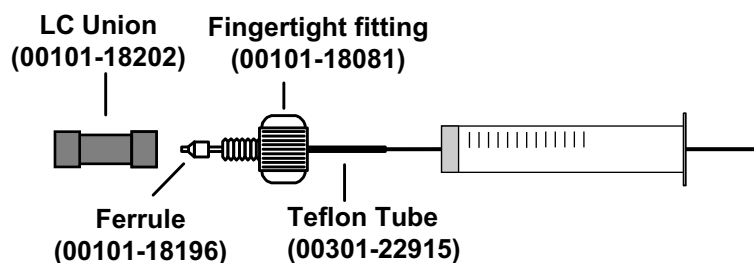

Figure 35. Syringe and syringe adapter assembly
- c. Remove the tip of the syringe needle from the end of the Teflon tube on the syringe adapter assembly (Figure 35).
5. While holding the plunger of the syringe in place, carefully reinsert the tip of the syringe needle into the end of the Teflon tube on the syringe adapter assembly (Figure 35).